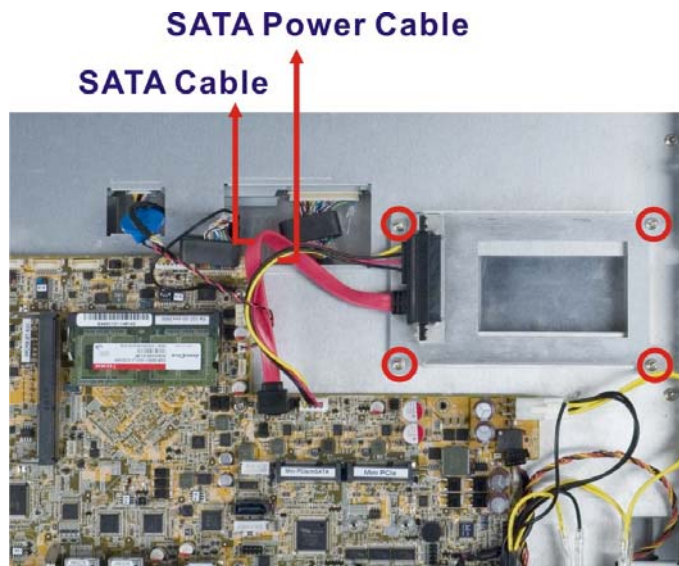

Figure 3-4: PPC-F17B-BTi HDD Bracket Retention Screws
Step 2: Remove the HDD bracket from the PPC-F12B/15B/17B-BTi. The HDD bracket is secured on the panel PC with four retention screws (**Figure 3-4**). Remove the four retention screws and disconnect the SATA and SATA power cables. Lift the bracket off the panel PC.